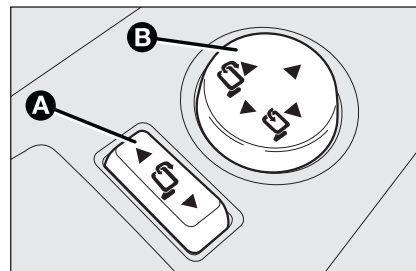

fig. 36
- set selector **A**-fig. 36 to home position (no mirror selected);
- to fold the mirror move the joystick **B**-fig. 36 in side directions;